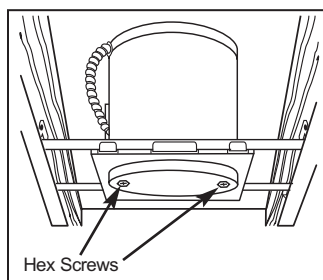
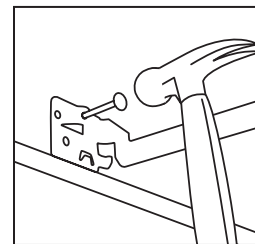

Figure 2
Figure 3
**Step 1.** Extend bar hangers to fit between joists. Bar hanger foot is contoured to easily align with bottom of joist (Fig. 2). Position fixture by hammering Real-Nails® into joists (Fig. 3).
**Step 4.** When installing in drywall, cut appropriate sized hole.\* After installing drywall, if necessary, adjust fixture for ceiling thickness by loosening hex screws that attach the round housing to the plaster frame (Fig. 2).